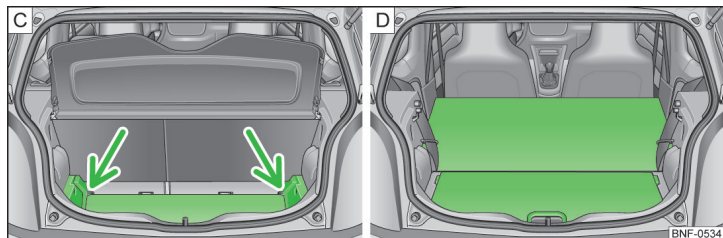

Fig. 71 Enlarge the luggage compartment: downward / forward
- Lift the load floor and push into the grooves » Fig. 71 - **C**.